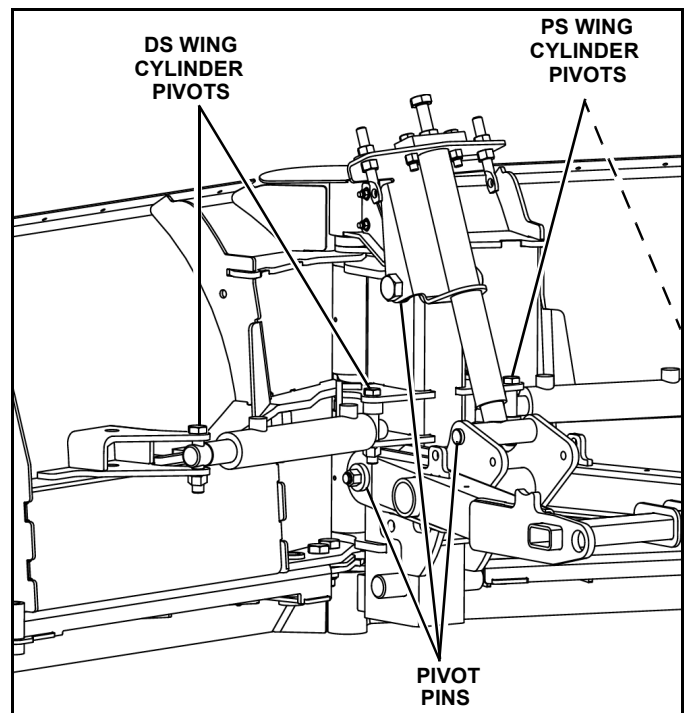

Figure 2-2
4. Apply a small amount of light oil to the wing cylinder pivot pins and to pivot pins between the blade assembly and the intermediate pivot assembly (See Figure 2-2).